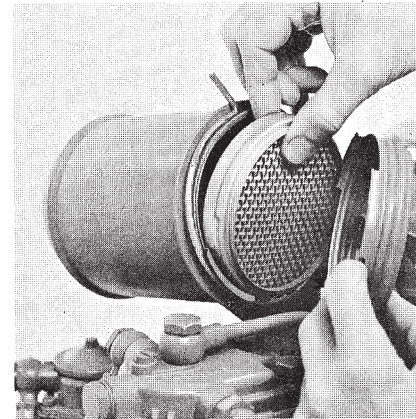

Fig. 18. Air cleaner
The air cleaner and strainer for the crankcase ventilation (located on the rocker arm casing) should be removed and cleaned after every 100 hours running, or once each season. Use white spirit or fuel oil for cleaning. See Fig. 18 and pos. 3, Figs. 1 and 3.